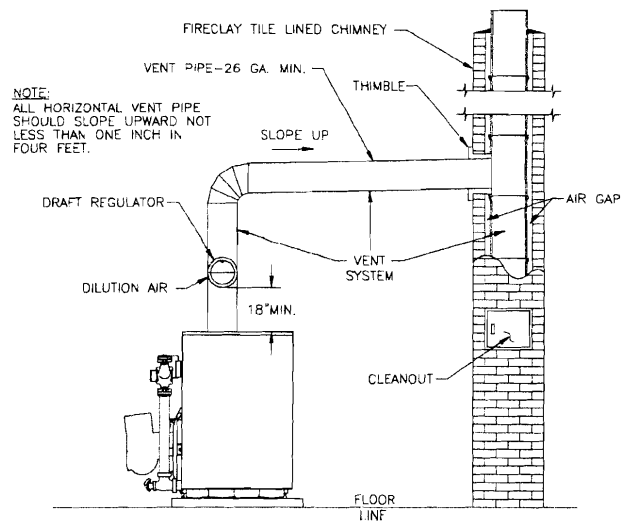

Figure 7: Recommended Smokepipe Arrangement and Chimney Requirements
- G. INSTALL SMOKEPIPE** — The C3 & C4 Series boiler should be vented into a fireclay tile-lined masonry chimney or chimney constructed from type L vent or a factory built chimney that complies with the type HT requirements of UL103. The chimney and vent pipe shall have a sufficient draft at all times, to assure safe proper operation of the boiler. See Figure 7 for recommended installation.